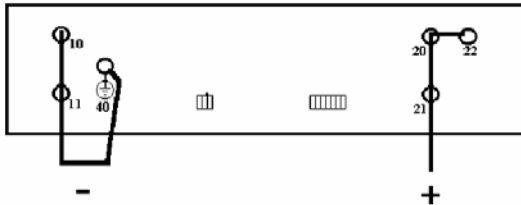

Figure 6. Output to case isolation voltage test.
4. Connect your isolation tester between output and case. See *Figure 6*. Raise the voltage of the isolation tester from 0 to 2000Vd.c. Check that